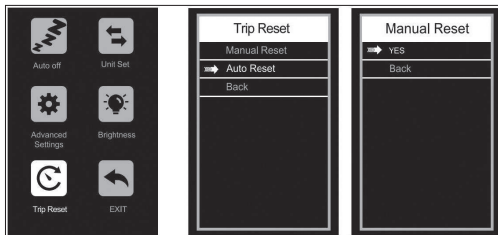

Figure 4-5
- Trip Reset:** If you enter this setting, you can clear single mileage data and adjust the mode of clearing single mileage, as shown in the (Figure 4-5).